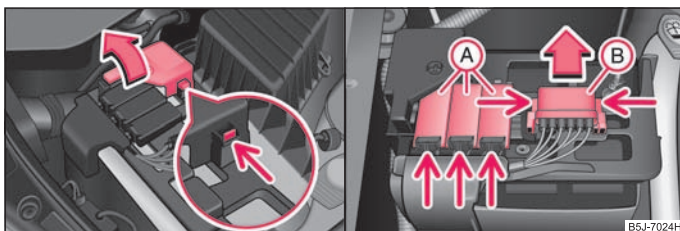

Fig. 165 The battery: Open the positive terminal cover / fuse cover
- Open the positive terminal cover (+) ⇒ fig. 165 - left.
- Press onto the interlocks of the fuse covers (A) ⇒ fig. 165 on the right and open the covers.
- Press together the interlocks of the fuse cover (B) simultaneously and push out the cover in the direction of the arrow.
- Some vehicles are only fitted with the cover (B) ⇒ fig. 165. ■